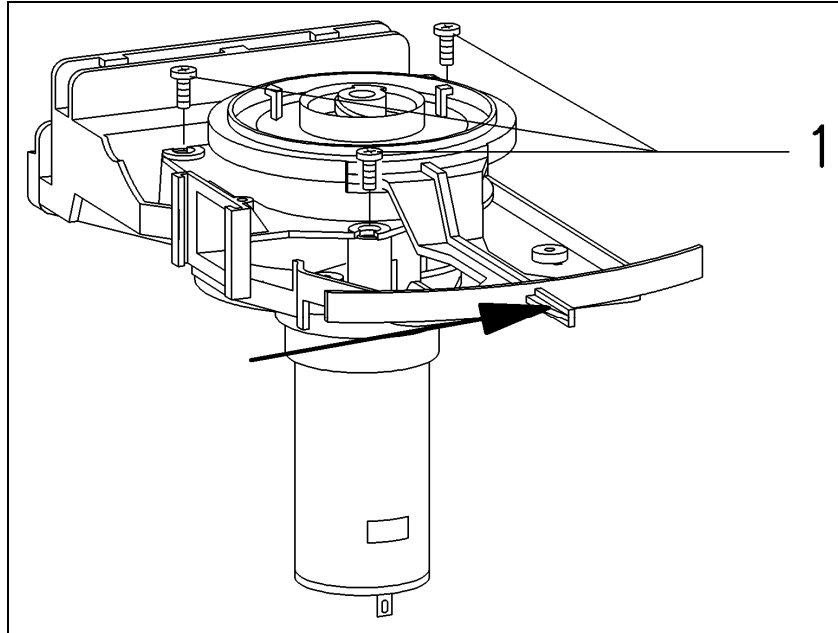

Figure 5-17: Grinder Removal
10. Slide the adjustment lever aside (arrow, Figure 5-17).
11. Remove the grinder retaining screws (Figure 5-17, Item 1).